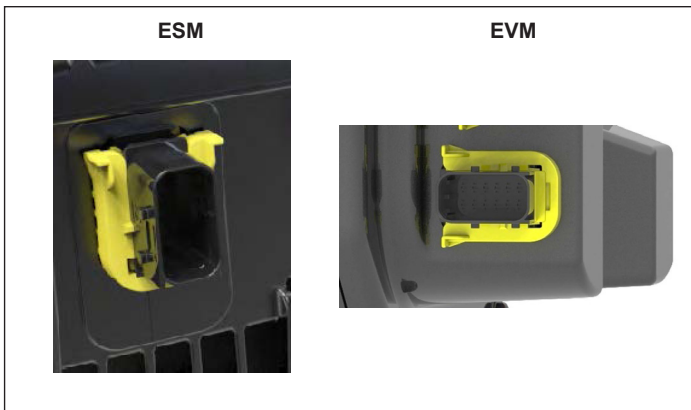

Figure 12 – Low-Voltage Connector
1. Ensure the compressor is off (ignition key off). Disconnect the low-voltage vehicle connector to prevent the module from restarting. See Figure 12.